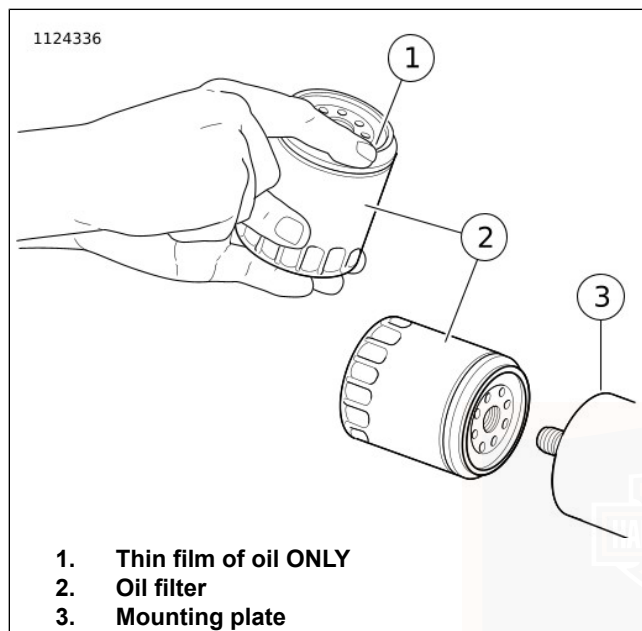

Figure 50. Applying Thin Oil Film
7. See Figure 50. Lubricate gasket with clean engine oil and install **new** oil filter on filter mount. Hand-tighten oil filter one-half to three-quarters of a turn after gasket first contacts filter mounting surface. Do NOT use oil filter wrench for installation.